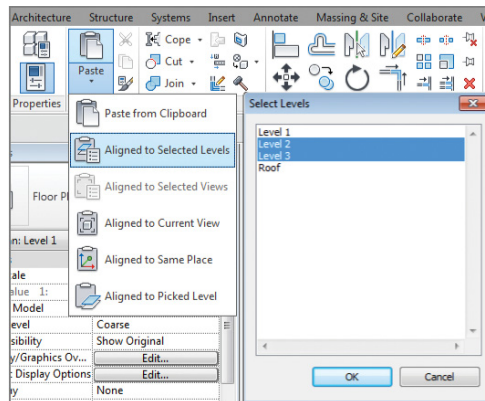

FIGURE 1.38 Use Paste Aligned To Selected Levels to create duplicate floor layouts.
4. Also in the Clipboard panel of the ribbon, click the Paste drop-down button, and select Aligned To Selected Levels. You're prompted with a dialog box to select levels to which the selected content will be copied in exactly the same position (Figure 1.38). Select Level 2 and Level 3 using the Ctrl key to make multiple selections.